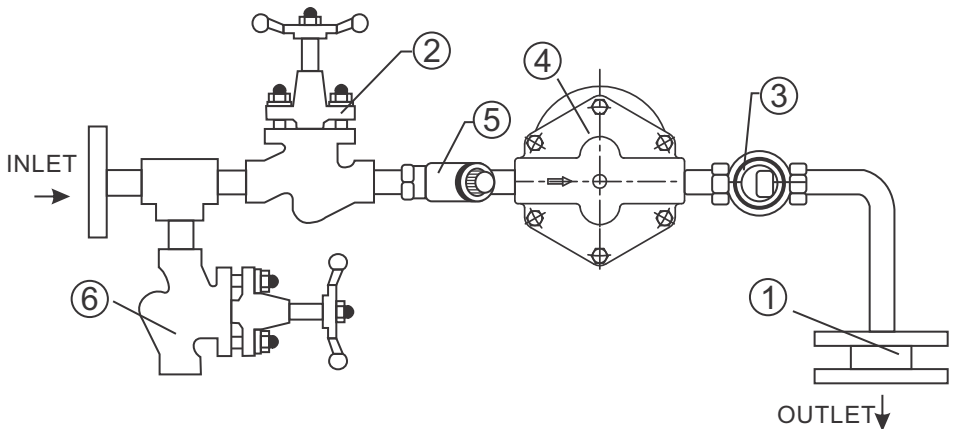

Figure 4: Single Orifice Float trap module
5. Installation Guidelines : (Refer to Figure 4, 5, and 6)
3. Ensure the availability of all components as shown in Figure 4, to ensure the operation of the trap
6.1 Flushing of Lines: (Refer to Figure 4)
6.2 Commissioning: (Refer to Figure 4)